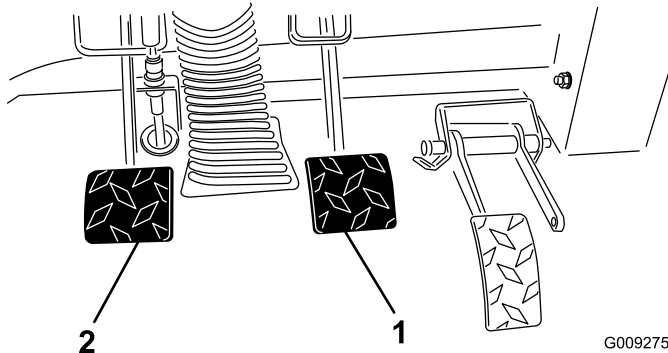

Figure 57
2. Lift up on the brake pedal (Figure 57) until it contacts the frame.